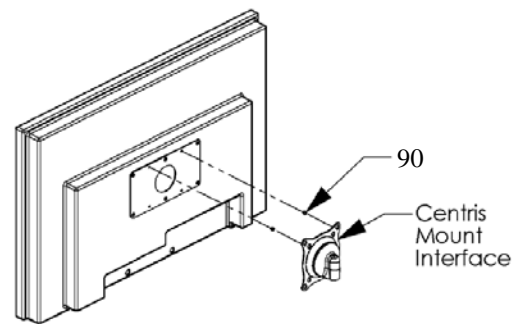

Figure 11. Hang Display onto Mount
2. Start two M4 x 5mm Phillips pan head screws (90) into the top two mounting holes of the display (see Figure 11).
4. Install the remaining two M4 x 5mm Phillips pan head screws (90) into the bottom two mounting holes of the display.
5. Secure the display to the mount by tightening all four M4 x 5mm Phillips pan head screws (90).